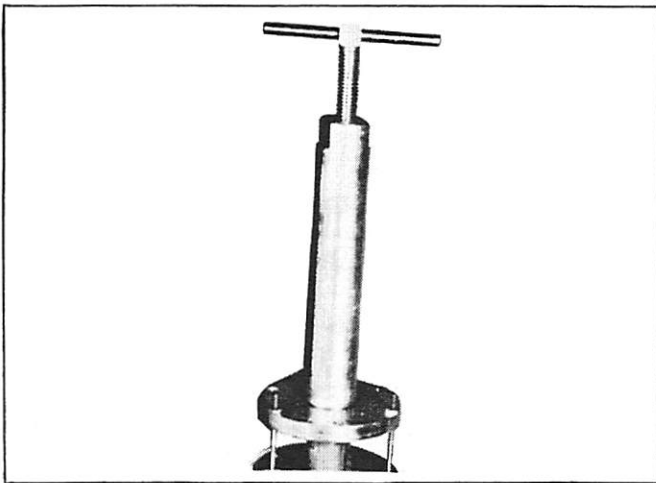

Figure 4. Removing Ball Bearing Adaptor
16. Remove ball bearing and bearing adaptor with puller tool (91-29456A3) with 3 studs (16-30691, 6/32 thread size). (Figure 4)